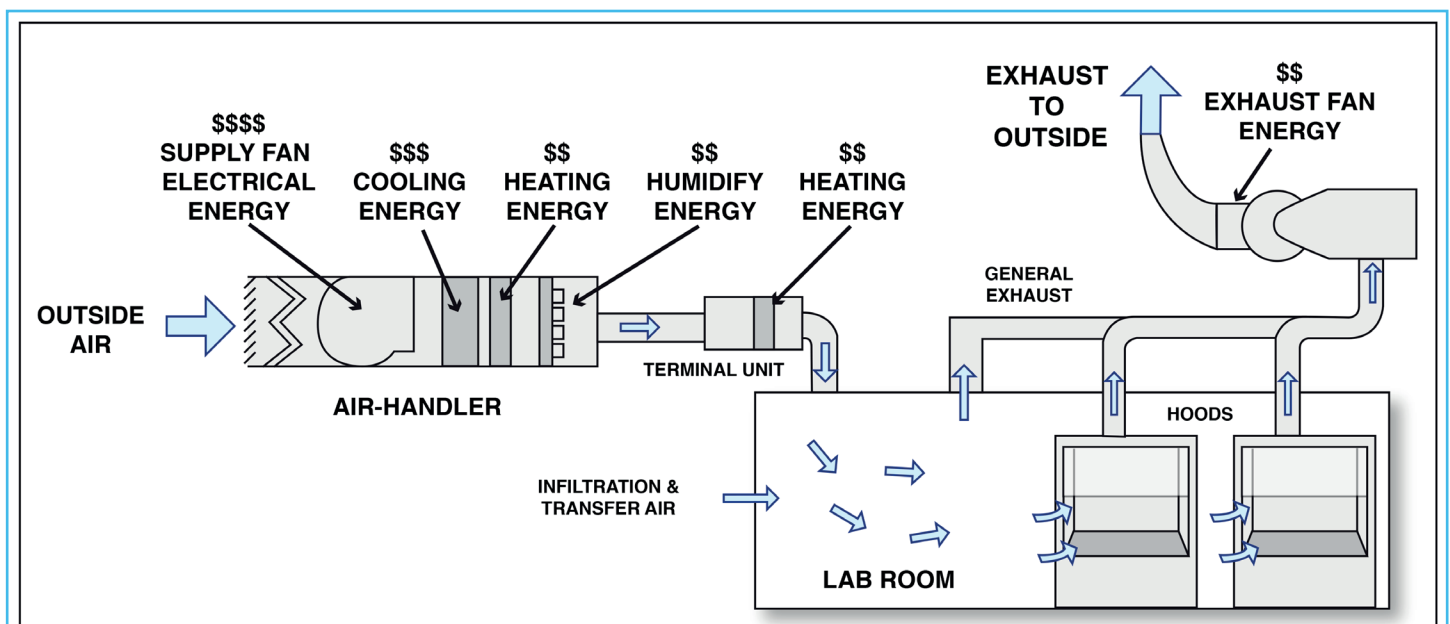

Figure 2: Intensive energy use for ducted fume hoods (US DOE, 2014)
- i. The largest operating cost of a laboratory is the HVAC systems that provide the correct environmental conditions. The control system must balance the airflow needs of the lab and provide enough conditioned air to satisfy the greater demand of (3) main categories:
As such, if the make-up air demand for the fume hoods (item 3 above) is so great that it exceeds the other two categories for at least some periods of time, then there is the potential for reducing the volume of air being delivered to the lab. That reduction in air volume is where operational cost savings will be generated. Heating, cooling, filtering, dehumidifying and delivering make-up air to the lab is very expensive (see Figure 2 below).